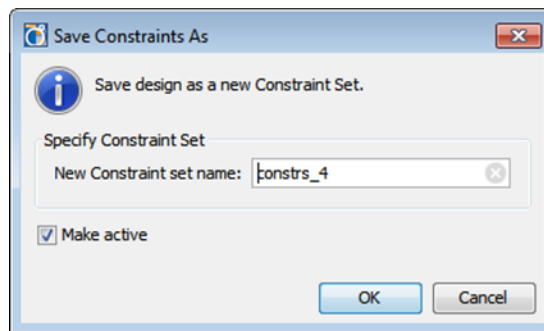

Figure 51: Save Constraints As
17. Select **File > Save Constraints As**, as shown in FIGURE 51, and click **OK**.